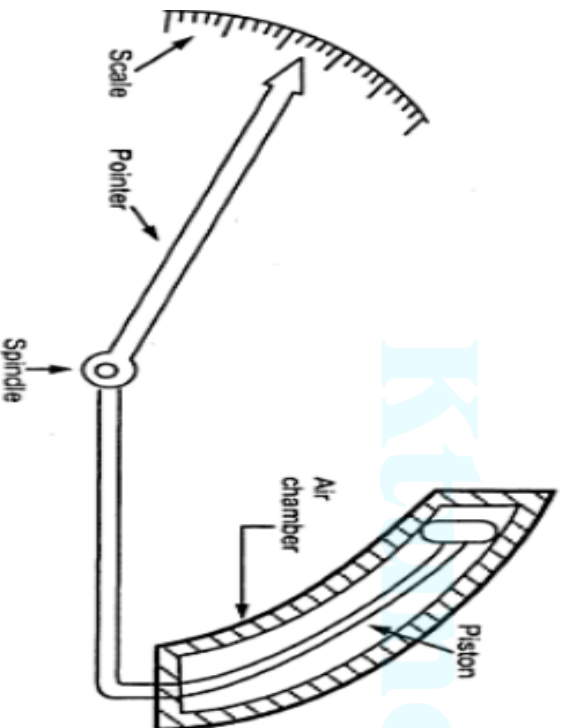

Fig 1
- When the pointer is at zero position as shown in fig 1 , the controlling torque is zero.
- In the first arrangement (fig 1) , a light aluminium piston is attached to the spindle that carries the pointer and moves with a very little clearance in a rectangular or circular air chamber closed at one end